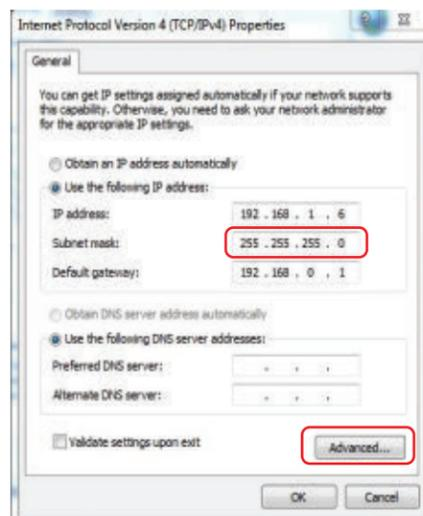

Fig. 6.7
- (1) Click “Advanced”, enter to “Advanced TCP/IP settings” (See Fig. 6.7).